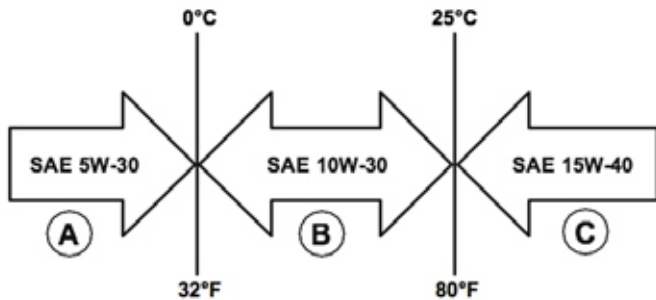

Figure 7: Recommended Oil
1. Only use the engine oil specified in Figure 7.